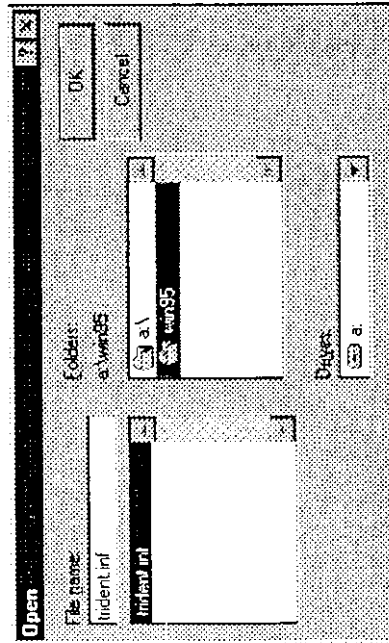

Figure 3-5.
6. After the "From Disk" button is selected, an "Install From Disk" window will appear. SELECT the "Browse" button to browse the directory "X:\WIN95" of your diskette drive where X: stands for the drive letter of your diskette drive in your system (refer to Figure 3-5).